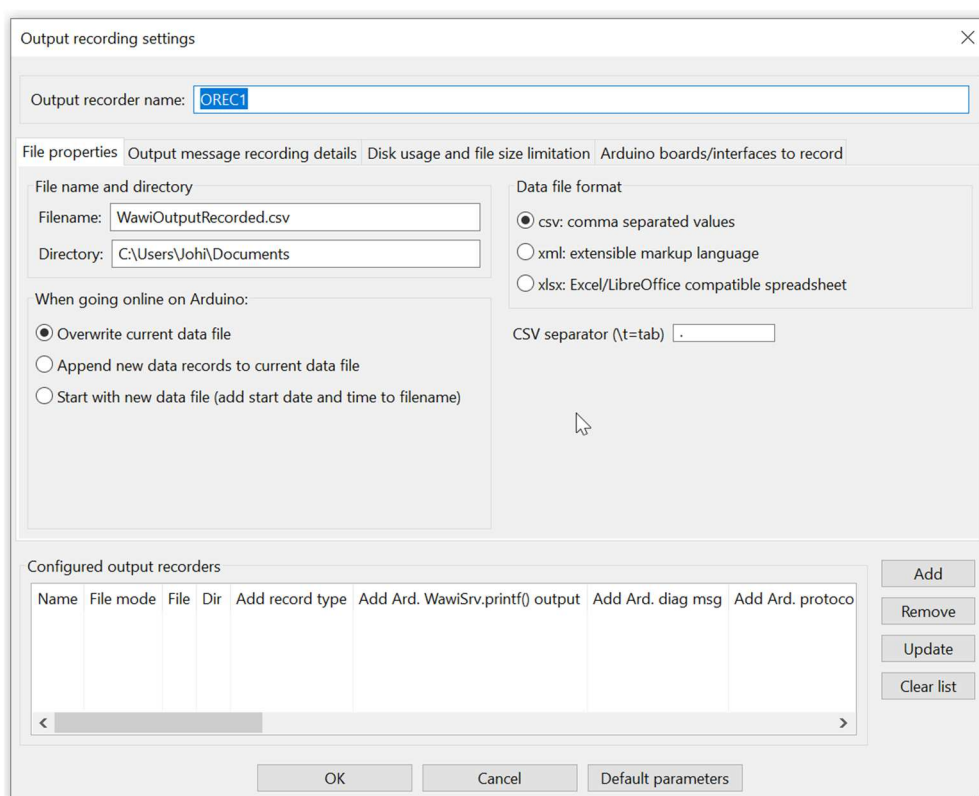

Fig 4.1. define an output recorder (file type)
- ✓ Fill in the fields as indicated in fig. 4.1